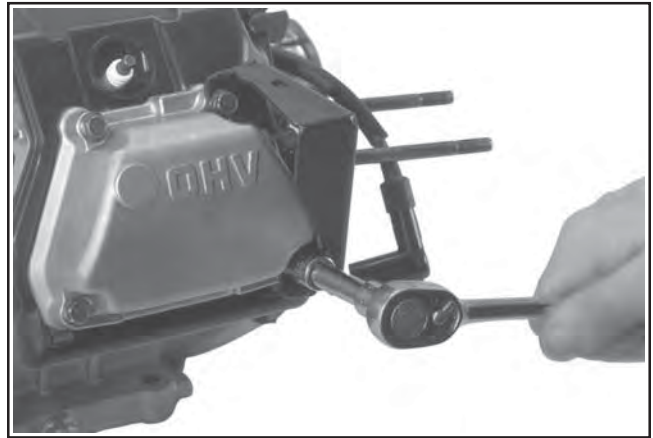

Figure 9-36. Removing Valve Cover Screws on Models with Attached Support Bracket.
1. Remove the four hex flange screws securing the valve cover. The air cleaner support bracket (CS8.5-12) may be mounted off two of the screws or directly to cylinder head. Remove the support bracket and note the locations of all the screws. See Figures 9-36 and 9-37.